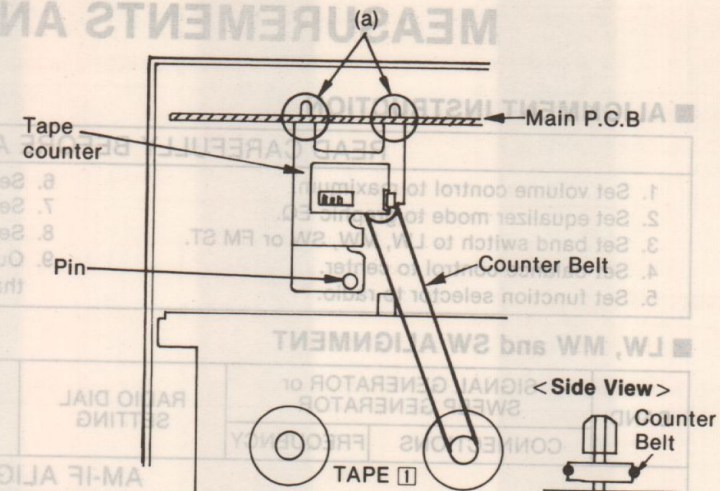

Fig. 19
1. Insert the tape counter in the hole (a) on the main circuit board as shown in Fig. 19.
3. Attach the counter belt as shown in Fig. 19, while being careful not to twist the belt or allow grease to come in contact with it.